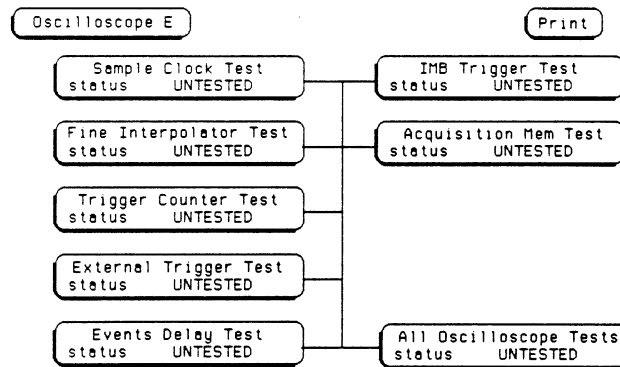

Figure 6-7. Main Test Menu
- e. Figure 6-7 is the main self test menu. Self tests can be run individually by touching a specific test field, or all tests automatically one time by touching "All Oscilloscope Tests". When "All Oscilloscope Tests" is run, the test status will change to "TESTED". When individual tests are run, the status will change to either "PASSED or FAILED".